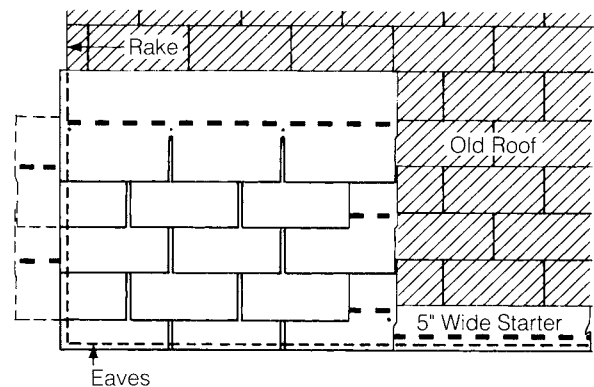

Figure 10-22: Vertical Racking, Nested.
- Cut 6" off one side of the first starter shingle and install the 30" piece over the first course of the old shingles, at the lower left corner. This, and all other shingles, must nest with the butt edges of the old shingles (*Figure 10-22*).
- Align the top edge of the 10" strips so they butt up (nest) against the tabs of the shingles in the old third course (*Figure 10-22*).
- Cut 6" off the left end of a full shingle. Nest the top edge of this new 12" by 30" piece of shingle up against the bottom edge of the shingles in the old fourth course (*Figure 10-22*).
- Begin the application of succeeding courses by alternating the use of full shingles and 30" shingles (6" off the left end) up the rake in a single column (*Figure 10-22*).